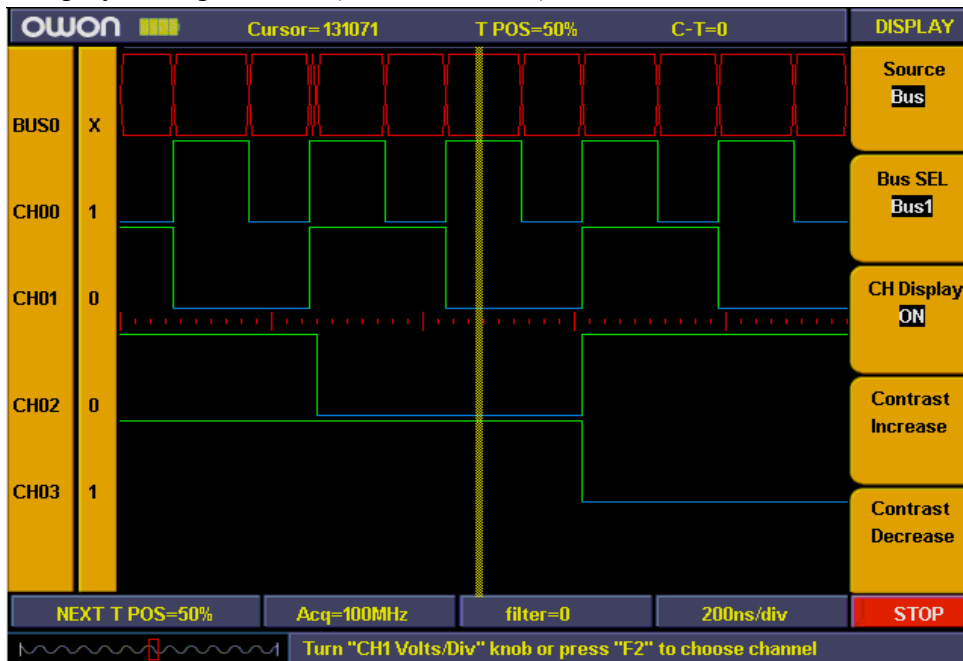

Fig.5-69: Display setting
- Channel display setting finished (refer to **Fig.5-69**)